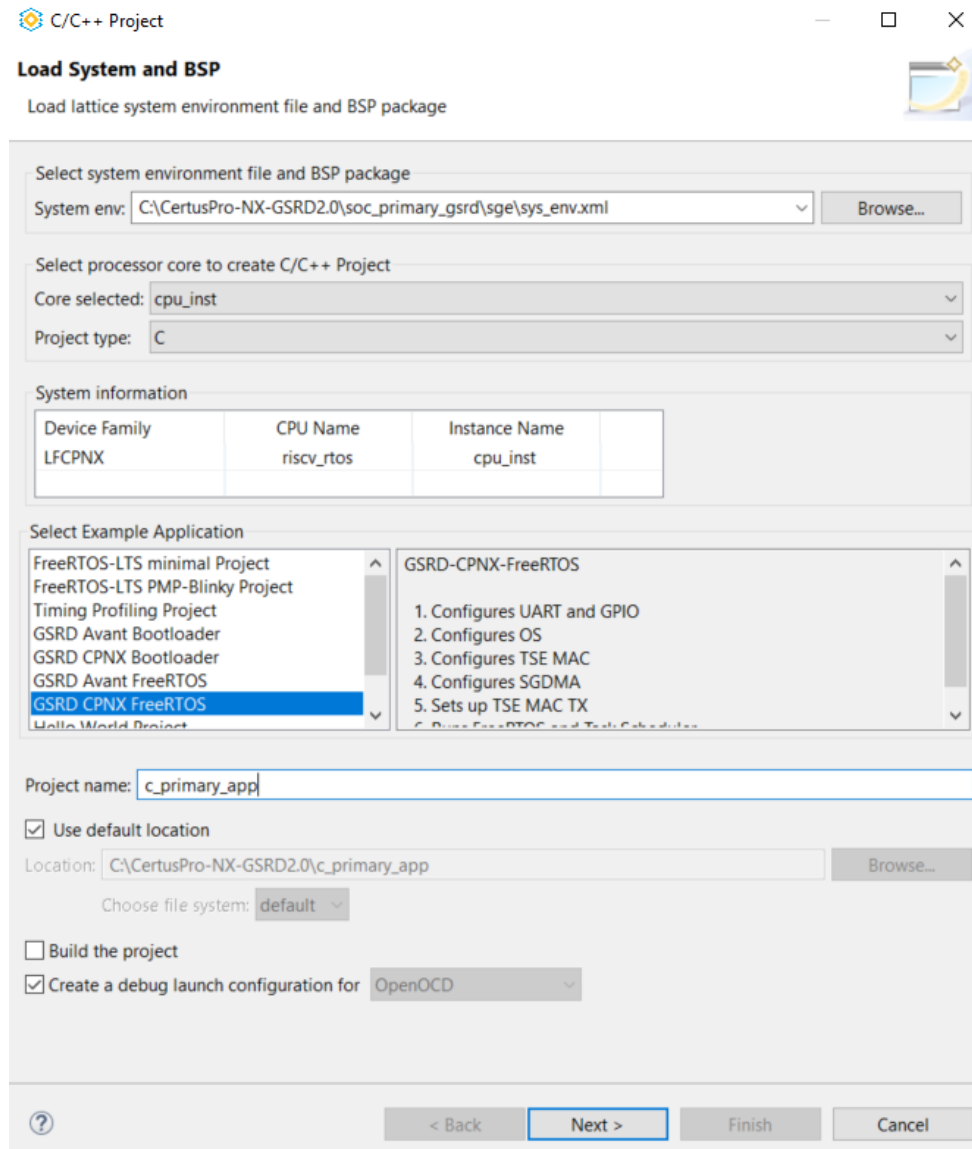

Figure 8.16. FreeRTOS C/C++ Selection
17. In the *Select Example Application*, select the **GSRD CPNX FreeRTOS** project. Provide the project name as shown in Figure 8.16.